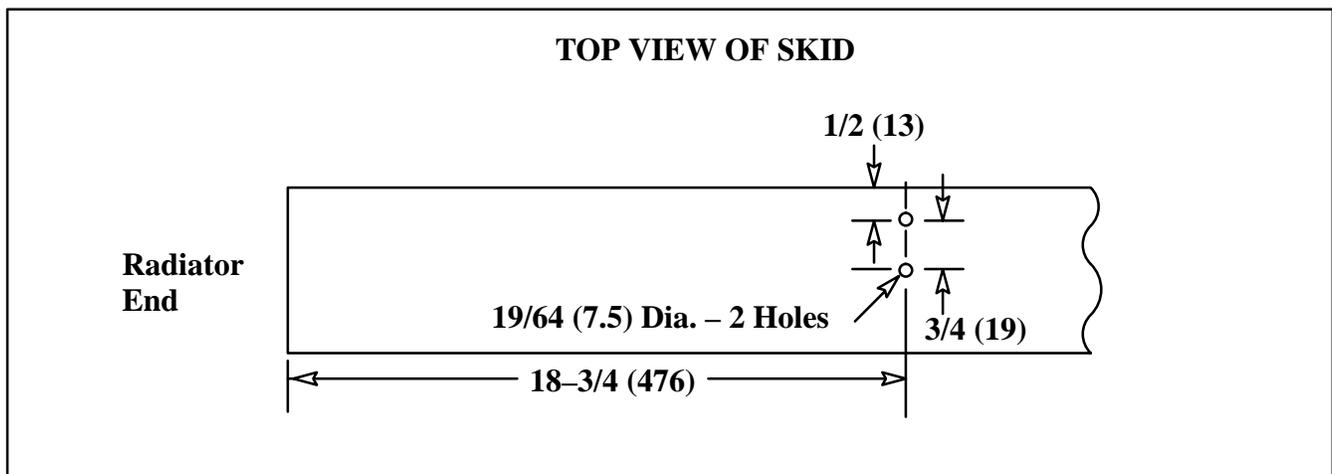

Figure 3. Skid Drilling Instructions
- Early generator sets may not have pre-drilled holes in skid. Use bracket as a template and drill two 19/64 in. dia. holes. Locate holes 18-3/4 in. (476 mm) from end of skid and 1/2 in. (13 mm) from edge of skid. Center-to-center dimension is 3/4 in. (19 mm). See Figure 3.